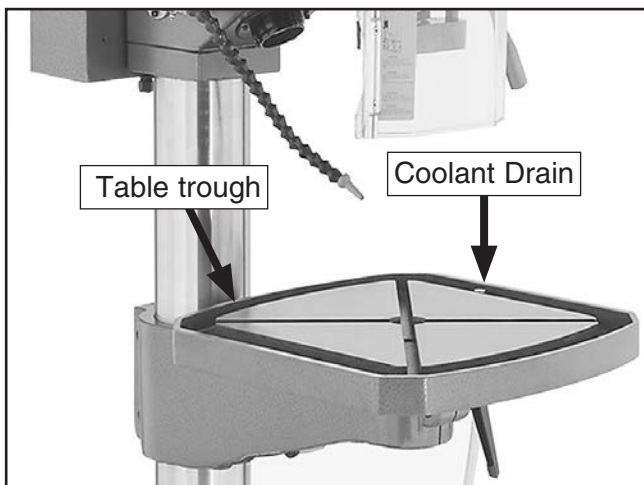

Figure 12. Table trough and coolant drain.
2. Aim the coolant nozzle into the trough to reduce splash (see **Figure 12**).